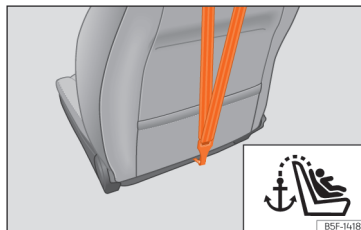
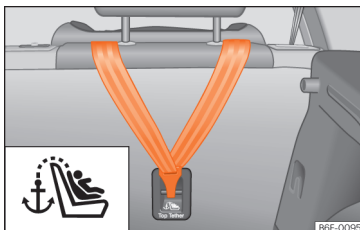

Fig. 50 Rear of front passenger seat backrest: Top Tether strap anchor.
Fig. 49 Rear part of the rear seats: securing rings for the Top Tether strap.
- Slide the strap and secure it properly with the anchor on the rear seat backrest >>> **Fig. 49**, >>> **Fig. 50**.